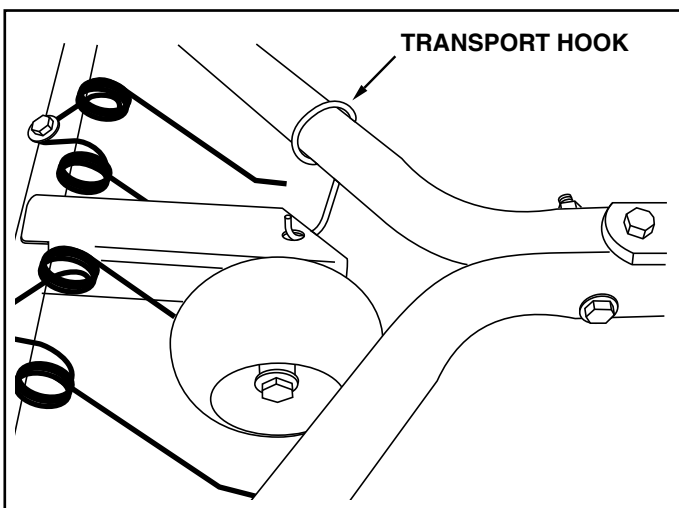

FIGURE 12
- Lift the front of the dethatcher and secure it in transport position using the transport hook. See figure 12.